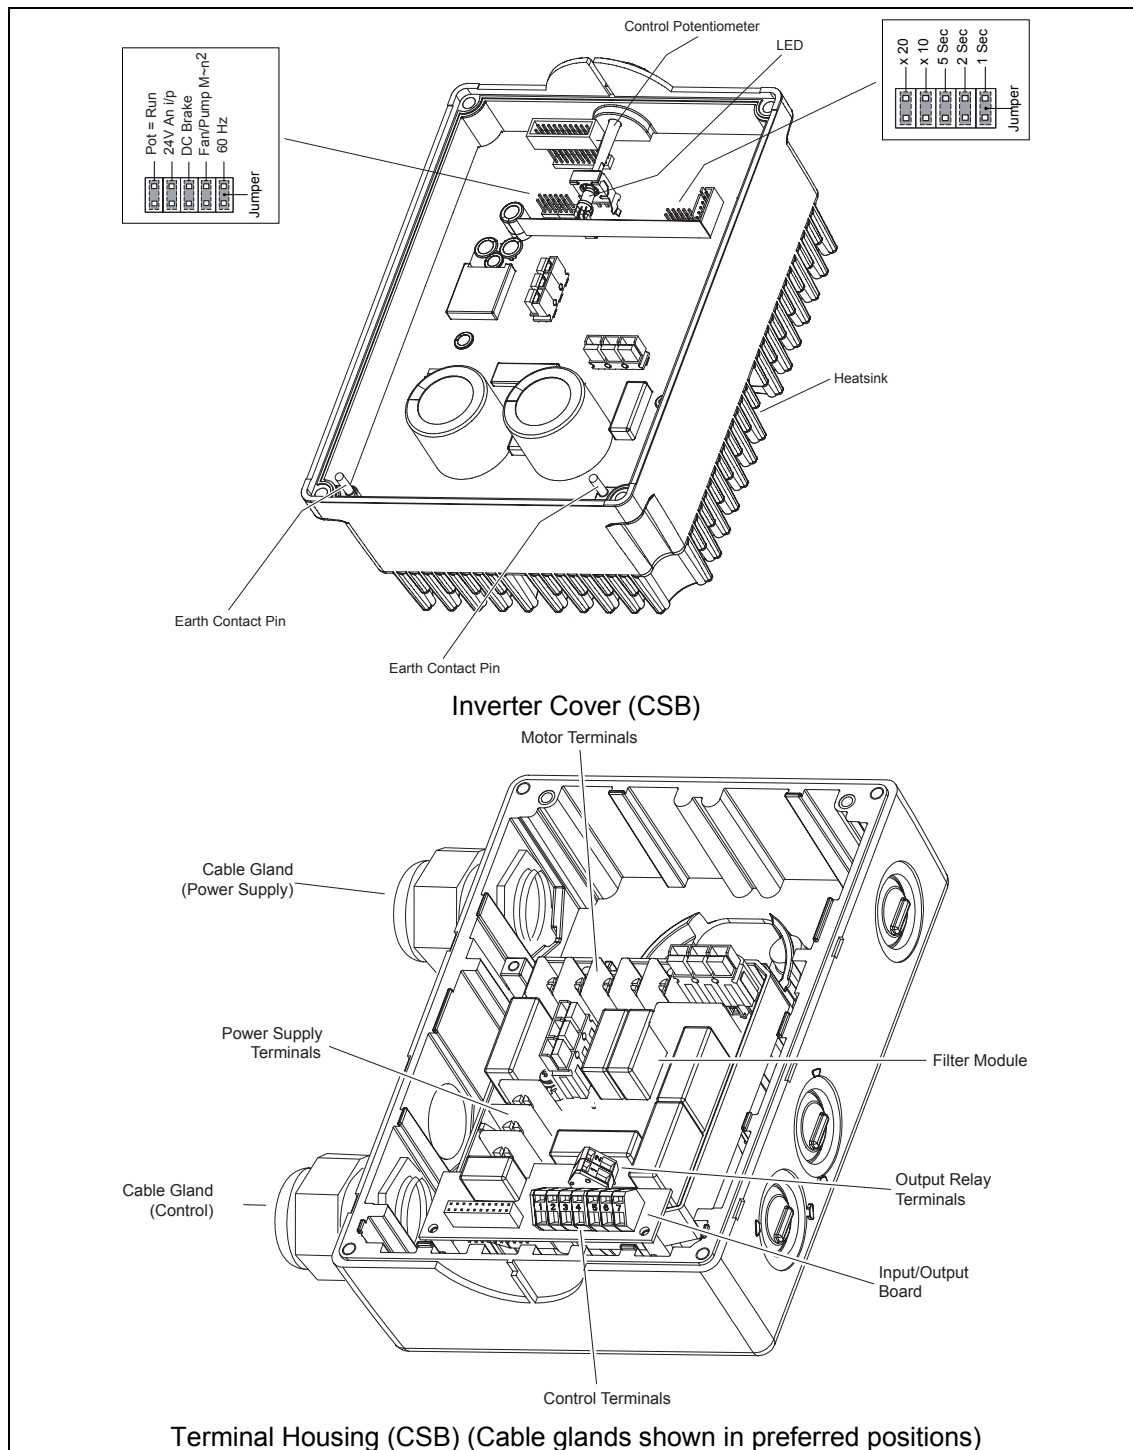

Figure 2-2 MICROMASTER 411, Internal Layout
9. Fit the Filter board (see Figure 2-2).
14. Fit the I/O board (see Figure 2-2).